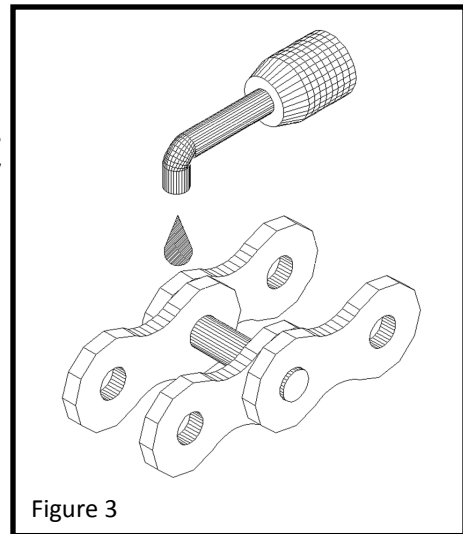

Figure 3
- Apply oil to drive chains (see figure 3, right). Use chain and cable lubricant.